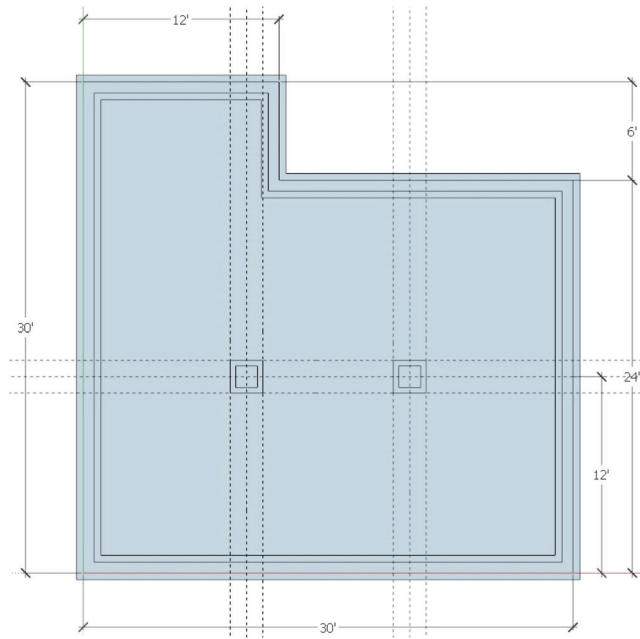

Figure 10.22 Outlines.
16. Finally, offset the interior pier pads 4" inward to create the 16" x 16" CMU Piers. You should now see what is depicted in Figure 10.22, which looks exactly like our reference drawing.